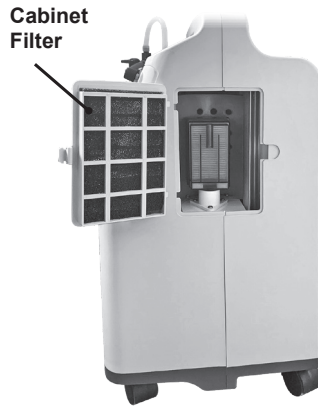

Figure 6
1. **Cabinet Filter** – It is critical to inspect the cabinet filter on a routine basis. Remove the cabinet filters, clean with mild soap or detergent, rinse thoroughly and ensure filters are dry before reinstalling, as shown in *Figure 6*. Regular maintenance requires cleaning the cabinet filter approximately every 300 hours.